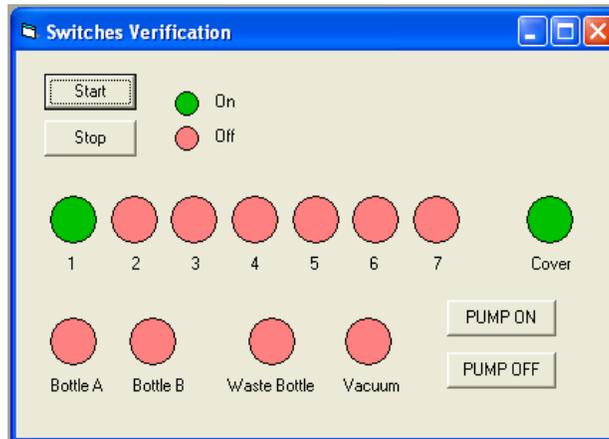

Figure 5-68: Cover Off and Sample Rack 1 in Position - Switches Verification
- Slide a Sample Rack into position number one. The 1 indicator should turn green (Figure 5-68).